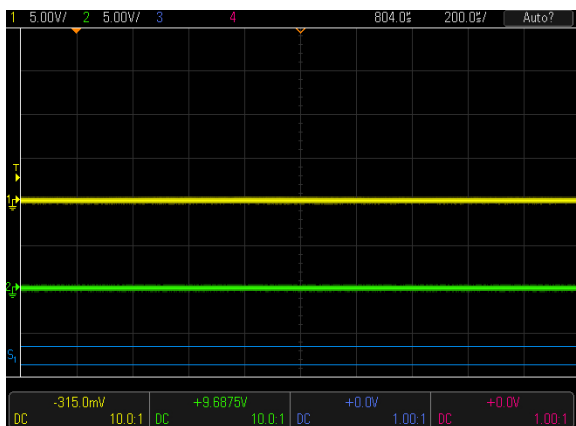

Figure 3: Keysight channel settings
1. Turn on the scope and then turn on two of four input channels by pressing the buttons with numbers on them in the vertical section of controls until the traces appear on the screen (Fig. 3). In this example we'll use channels 1 and 2.